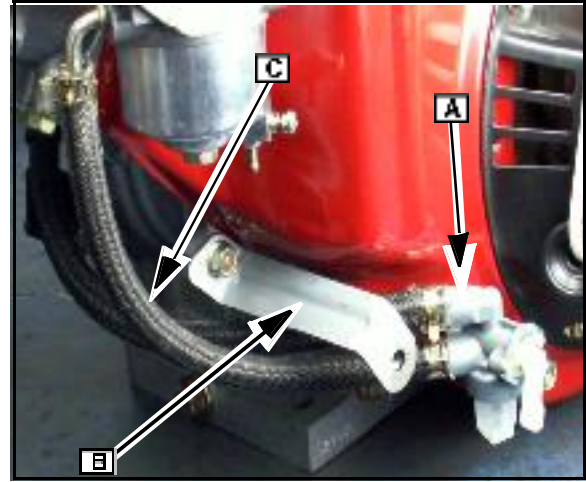

Fig. 18
10. Install fuel shut-off valve (A) and support for air filter assembly (B).
11. Connect fuel hose ([C] Fig. 18) to carburetor.